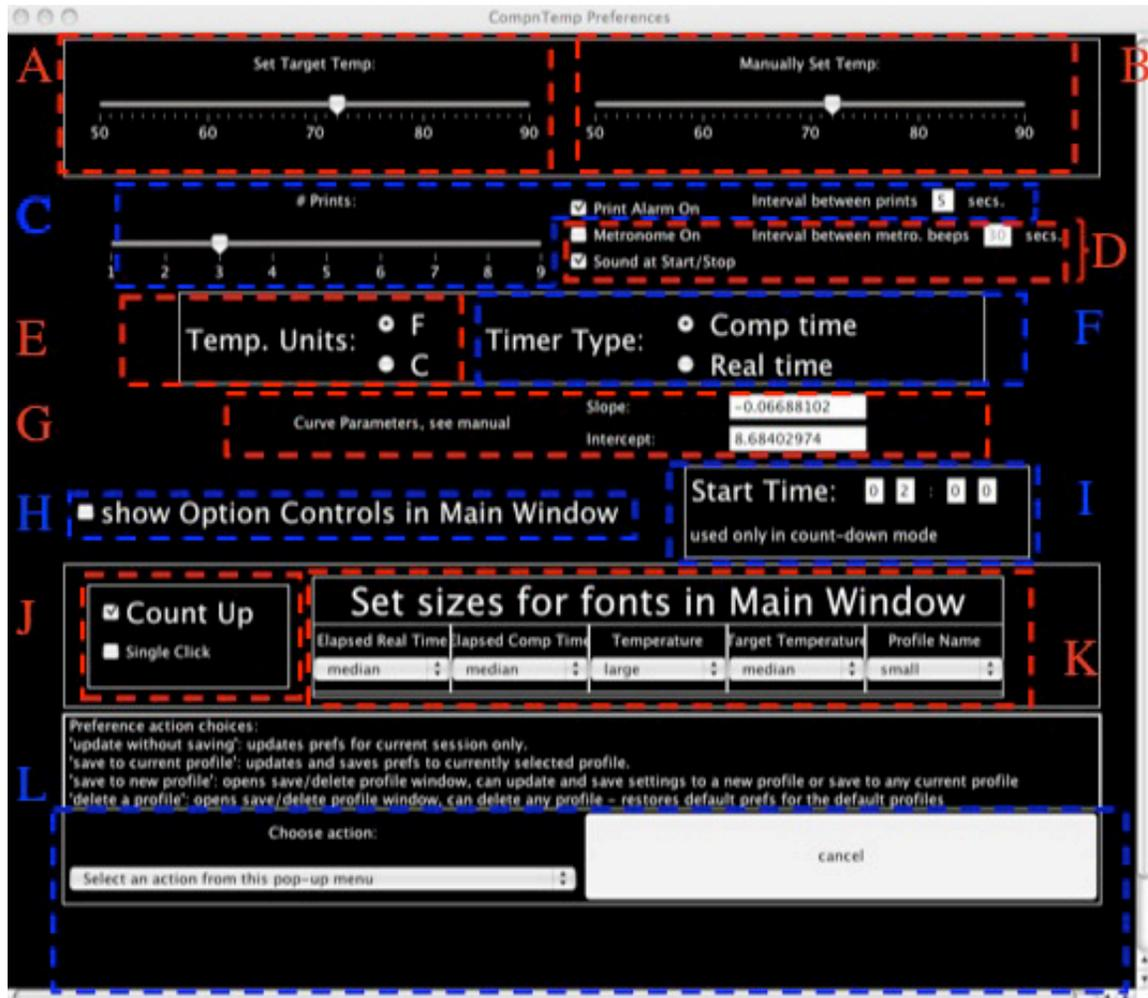

Figure 6. Preference window. The different preferences are labeled with red or blue letters. See text below for descriptions of preferences.
- H. Show option controls in main window. Checking this box displays most of the controls in the main window (see figure 6). This makes changing the options faster, you don’t have to go through the pull-down menus each time to change an option. Useful when exploring the features of the CT timer.